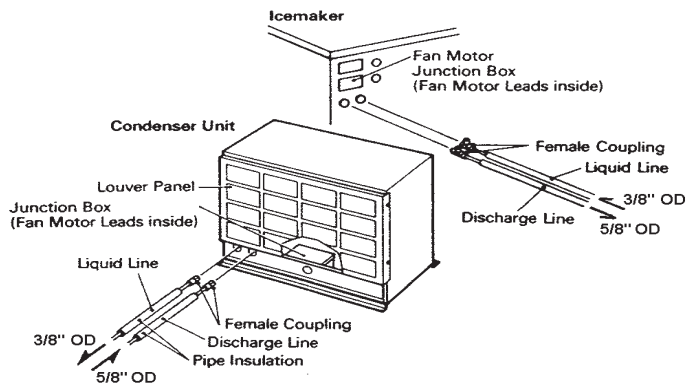

Fig. 11
3) Install enough length of two copper tubings provided with Parker quick connect couplings between the icemaker and the condenser unit. The two copper tubings should be insulated separately. See Fig. 11.